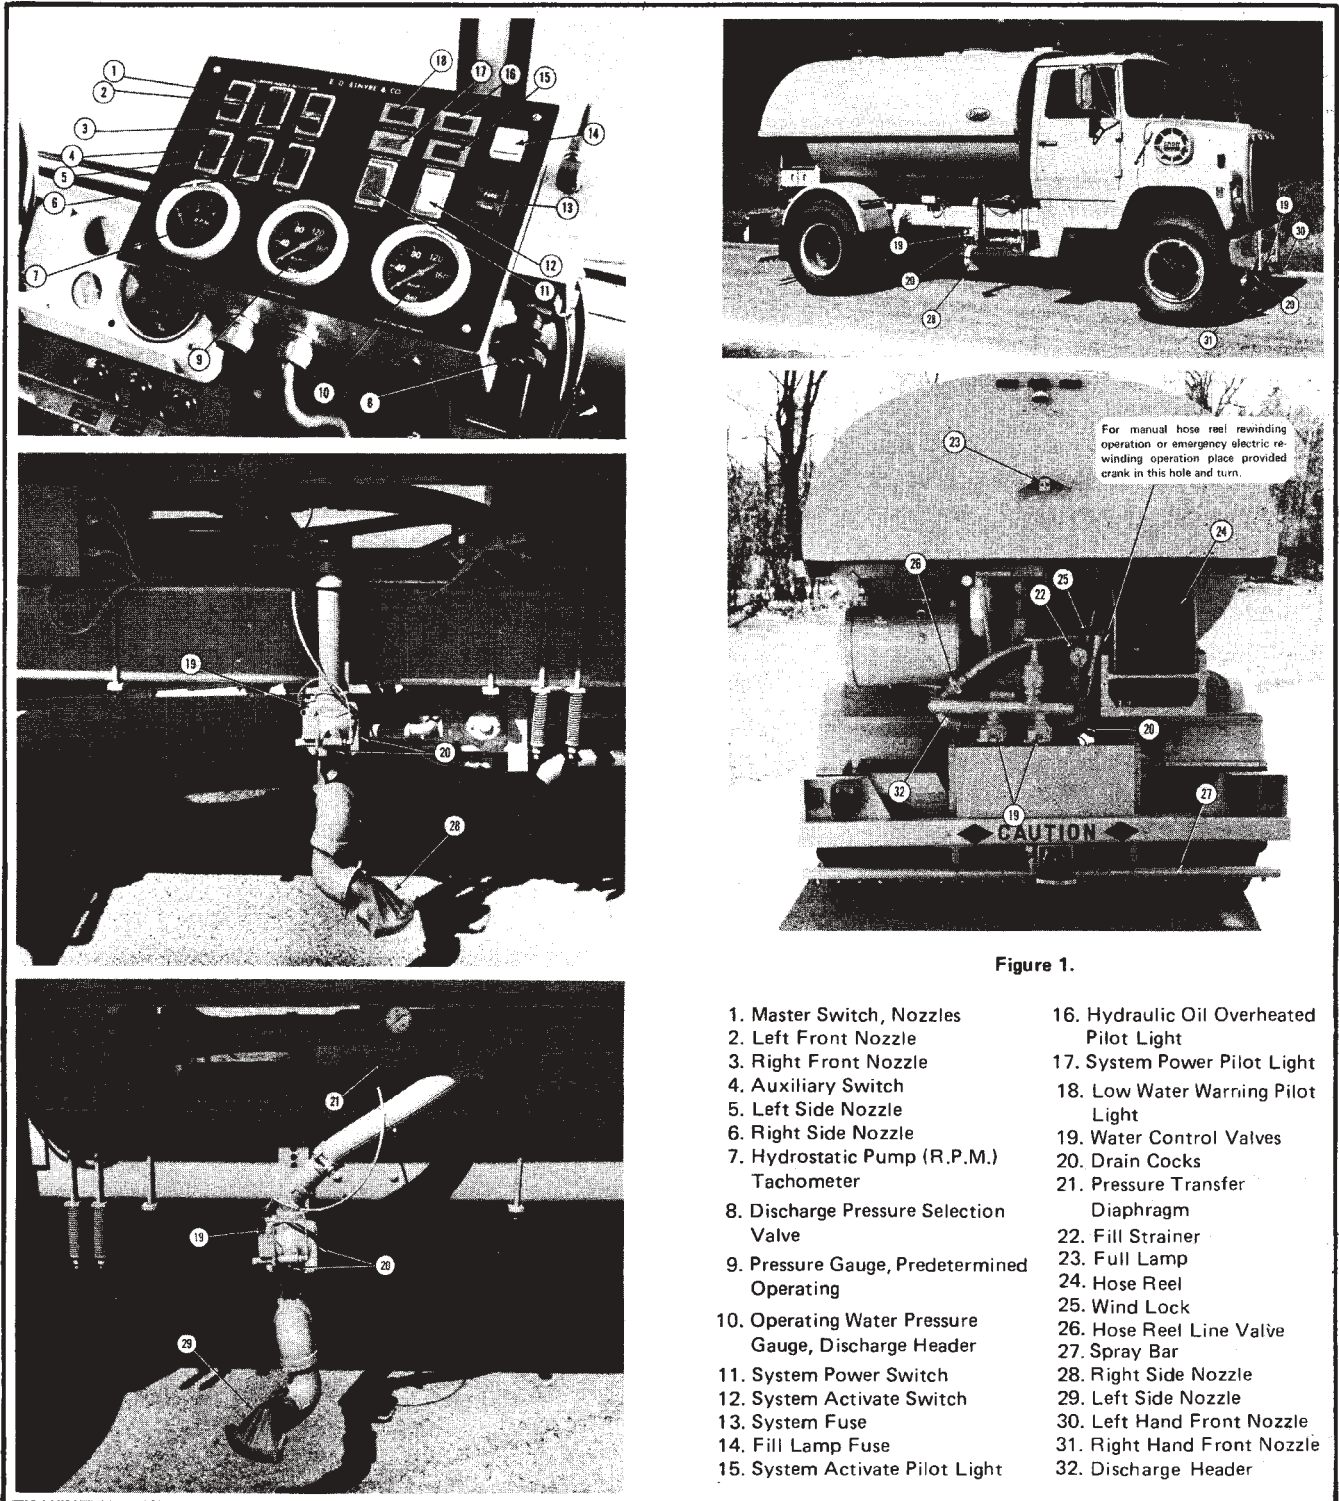

Figure 1.
1. Check Oil Reference Figure 1. Page 7.
2. Pre-Filling Reference Figure 1. Page 7.
3. Fill Tank Reference Figure 1. Page 7.
5. Flushing Pressure Selection Reference Figure 1
6. Water Pump Start Up Reference Figure 1
7. Nozzle Operation Reference Figure 1
8. Nozzle Adjustment Reference Figure 1
9. Automatic Shut Down Reference Figure 1
11. Hydraulic System Caution Reference Figure 1
12. Auxiliary Equipment Reference Figure 1
13. Draining System Reference Figure 1